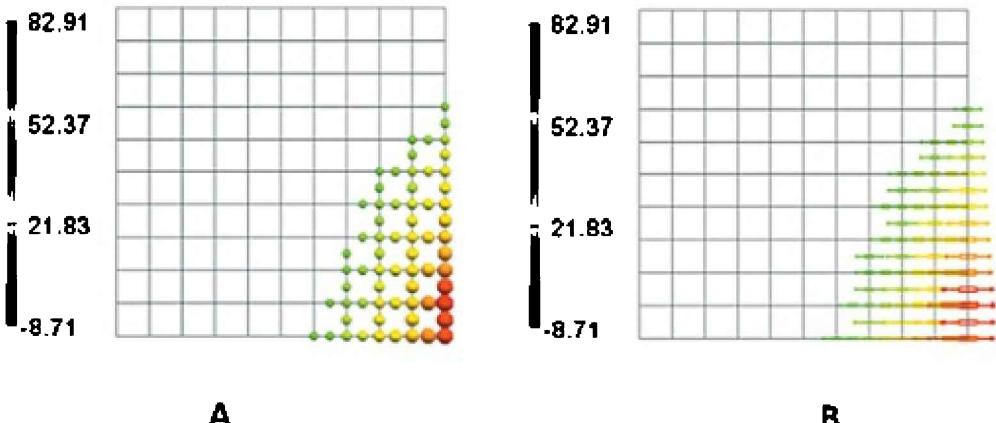

Figure 5.22. Displaying results using the hide marks below 50% option A. Spheres. B. Tensors
- You can use the *Hide Marks Below* box to hide all results below the specified value (Figure 5.22).